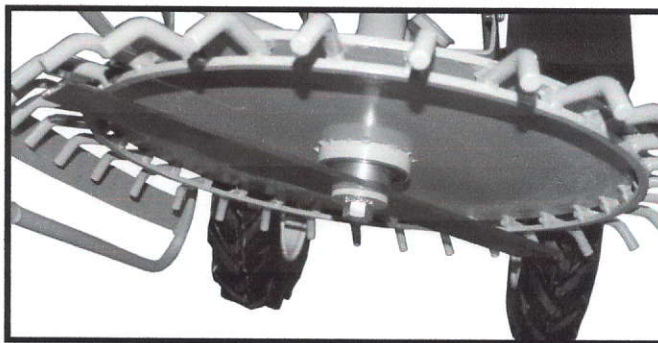

Figure 2
1. TO CHANGE A BLADE: (See Figure 2)